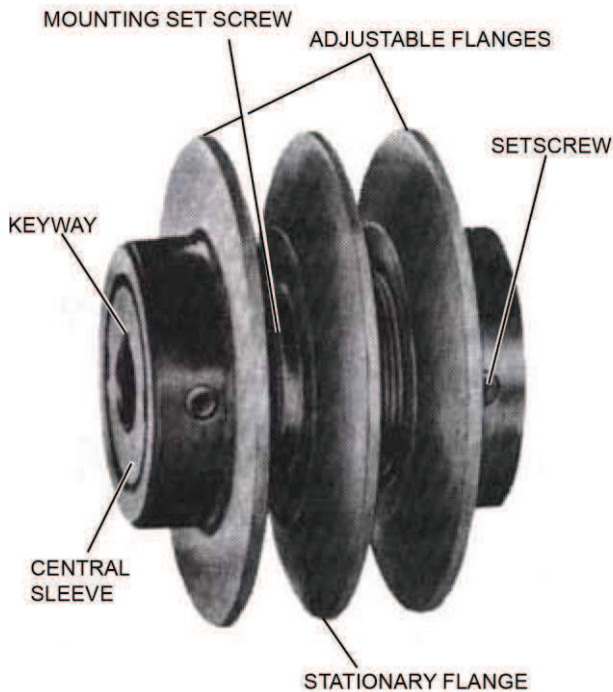

FIGURE 81 - ADJUSTABLE PITCH SHEAVE (FHP)
5. Loosen the set screws on the adjustable flange(s) of the sheave (Allen wrench) as shown in *Figure 81* on page 81.